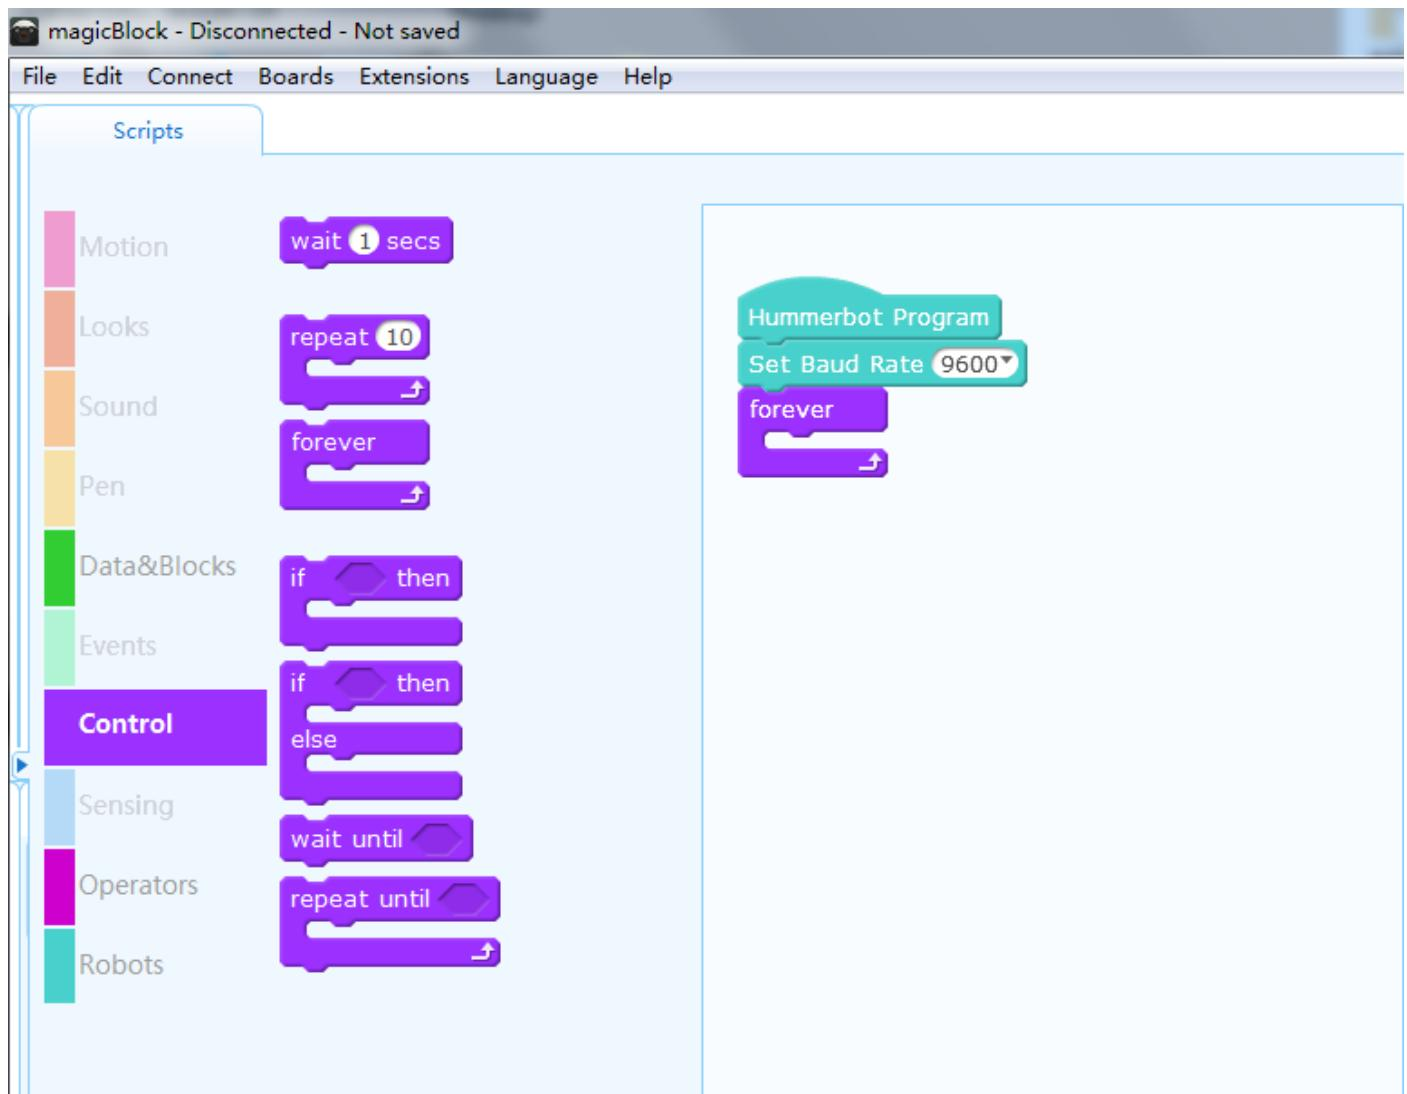

Figure 2-1-2-2
- 2) Drag the "serial port print string" building block into the repeated execution building block and enter "Hello word" as shown in Figure 2-1-2-3.